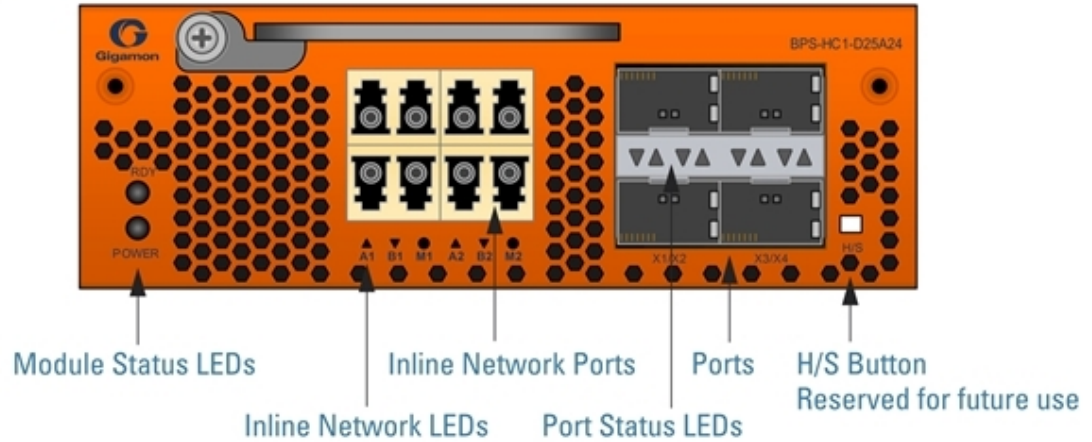

Figure 3 Bypass Combo Module BPS-HC1-D25A24
- Bypass Combo Module with two SX/SR (50/125µm multimode) inline network port pairs and four regular SFP+ port cages (BPS-HC1-D25A24) (Figure 3 Bypass Combo Module BPS-HC1-D25A24)